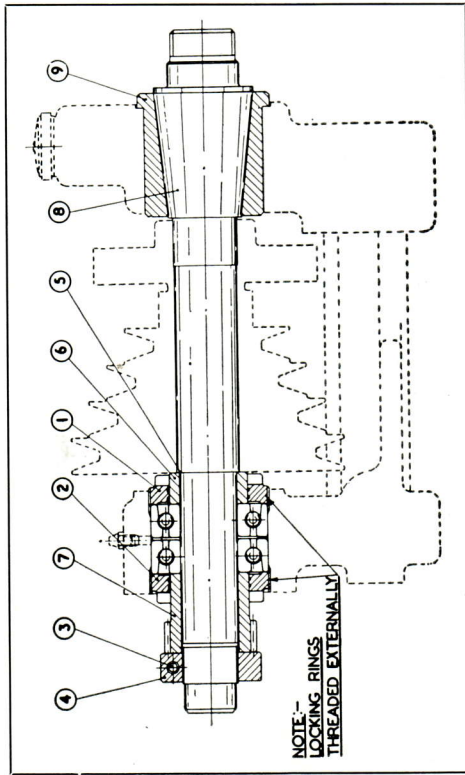

Fig. 35. Showing headstock spindle layout.
As shown in Fig. 35 the headstock bearing layout combines a tapered front journal with twin angular contact ball bearings at the rear. Front journal clearance is adjusted by axial movement of the spindle relative to the tapered bush.
Examination of Fig. 35 will show that the ball bearings are held between the spindle thrust shoulder (5) and the adjusting collar (4), by the distance sleeve (6) and the sleeve gear (7) which act as spacers.
Refer to Fig. 35. Slacken screw (3) just sufficiently to allow adjusting collar (4) to be turned. Excessive freedom in the collar thread may allow the thrust face to move out of square and affect the setting of the ball bearings when the screw (3) is tightened. Rotate collar (4) clockwise (looking on end of spindle) to increase the loading.